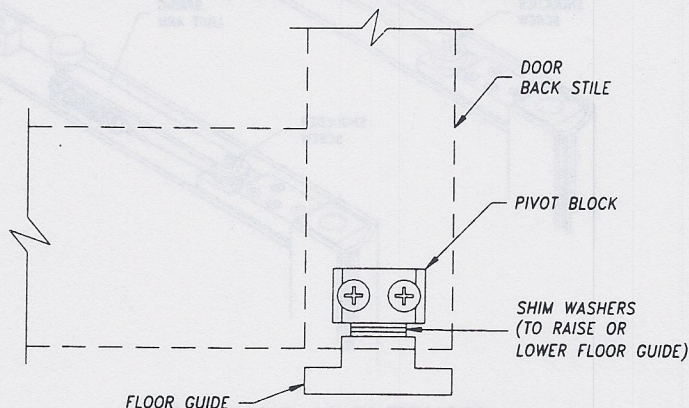

FIGURE 16: Installation of Door (SX) Bottom Pivot Assembly
7. Remove the sliding door bottom pivot assembly (which includes the floor guide) from the blister pack. Install the bottom pivot assembly into the bottom vertical door stile through the two prepped and countersunk holes with the 1/4-20 x 3/8" long flat head screws provided (Figure 16).